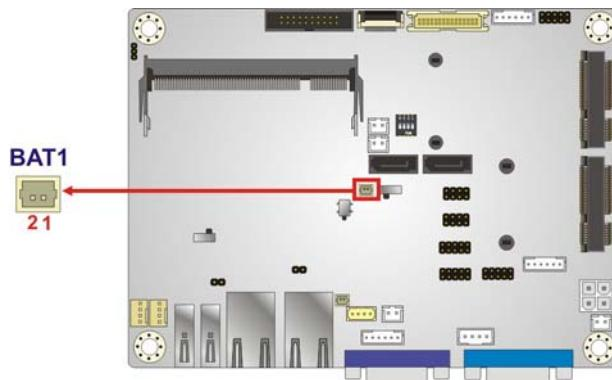

Figure 3-4: Battery Connector Location
**CN Location:** See **Figure 3-4**